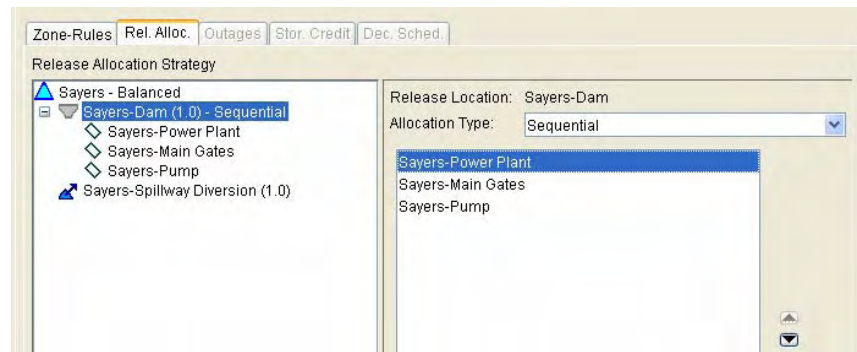

Figure 11.98 Release Allocation Editor, Release Allocation Type for Dam is Sequential for Three Outlets
- Sequential:** The available outlets can be given an order of priority, indicating which outlet gets the release until it reaches release capacity, then the next outlet gets the remainder of the release until it reaches capacity, and so on (e.g., Power Plant, then Main Gates, then ...). To do this, highlight the appropriate component (e.g., the “Dam”) in the left panel of the editor. In the right panel of the editor, select **Sequential** from the Allocation Type list, then change the order of the outlets (select the outlet and use the arrows located on the right side of the editor to move the outlet up or down in the list). The outlet at the top of the list will be the first to release (up to its capacity), then the next outlet in the list will release (if needed, up to its capacity), and so forth. Figure 11.98 shows a Sequential release allocation for the three outlets of the Dam.